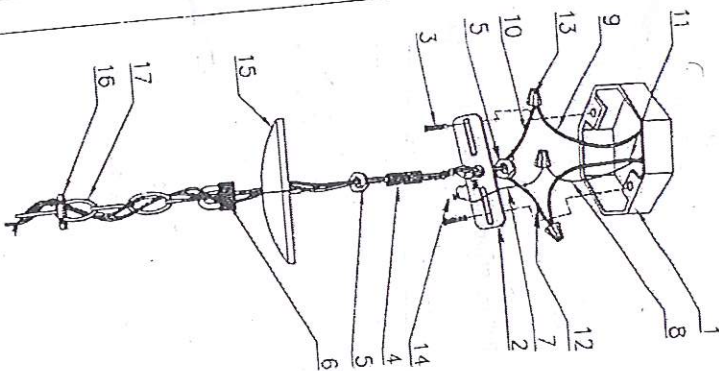

FIG. 1
- Take the parts out of the mounting package. Screw the end of the NIPPLE (4) into the center hole of the MOUNTING BRACKET (2) and thread both 1/8" IPS HEX NUT(5) several turns onto each end of the NIPPLE(4) but do not tighten the 1/8" IPS HEX NUTS (5). Pull the SUPPLY WIRES (9 & 11) and the SUPPLY GROUND WIRE (8) out from the OUTLET BOX (1) and attach the MOUNTING BRACKET (2) and the OUTLET BOX (1) using the slotted holes of the MOUNTING BRACKET (2) assembly to the OUTLET BOX (1) provided. (See Fig. 1)
- Thread the SCREW COLLAR LOOP (6) onto the bottom end of the NIPPLE (4). Place the CANOPY (15) over the OUTLET BOX (1) and adjust the SCREW COLLAR LOOP (6) and NIPPLE (4) until the midpoint of the outside threads on the SCREW COLLAR LOOP (6) is centered (aligned) with the surface of the CANOPY (15). Remove the CANOPY (15) and tighten both 1/8" IPS HEX NUTS (5) down on the MOUNTING BRACKET (2) and the SCREW COLLAR LOOP (6). (See Fig. 1)
- Thread the FIXTURE LOOP (18) onto the NIPPLE (19) till tight.
- Open up the end links of the CHAIN (17) and attach one end of the CHAIN (17) onto the FIXTURE LOOP (18). Slide the THREADED RING (16) and the CANOPY (15) onto the CHAIN (17) (in that order) and attach the other end of the CHAIN (17) to the SCREW COLLAR LOOP (6). Close the ends of the chain links. (See Fig. 1 and 2)
- Unravel the fixture lead wires(10 and 12) and FIXTURE GROUND WIRE (7) and thread them through every other link of the CHAIN (17) starting with the chain link attached to the FIXTURE LOOP (18). Feed the fixture lead wires(10 and 12) and FIXTURE GROUND WIRE (7) through the SCREW COLLAR LOOP (6) and NIPPLE (4) assembly. Pull the fixture lead wire(10 and 12) and the FIXTURE GROUND LOOP (6) and NIPPLE (4) any excess slack. (See Fig. 1)
- Attach the power supply wires to the fixture lead wires by connecting the BLACK SUPPLY WIRE (9) to the SMOOTH FIXTURE LEAD WIRE (10) and the WHITE SUPPLY WIRE (11) to the RIBBED FIXTURE LEAD WIRE (12). Loop the FIXTURE GROUND WIRE (7) around the GROUND SCREW (8) of the MOUNTING BRACKET (2). (Note: Be sure to provide an extra 3" length of the GROUND WIRE(7)). Connect the remaining FIXTURE GROUND WIRE (7) to the SUPPLY GROUND WIRE (8) using a WIRE CONNECTOR (13). Place wiring and connections inside the OUTLET BOX (1). (See Fig. 1)
- Slide the GLASS SHADE(21) over the SOCKET(20), secure with the SOCKET RING(22).